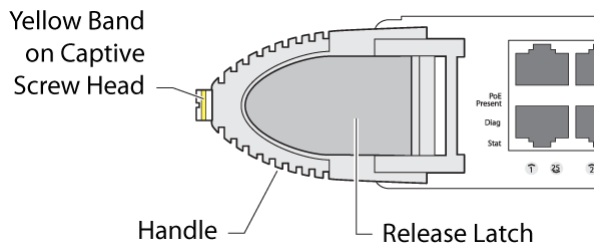

Figure 37. Indications that the module is unlocked
3. Squeeze the release latch on each injector/ejector handle and rotate both handles outward to disconnect the module from the chassis backplane (see Figure 37).